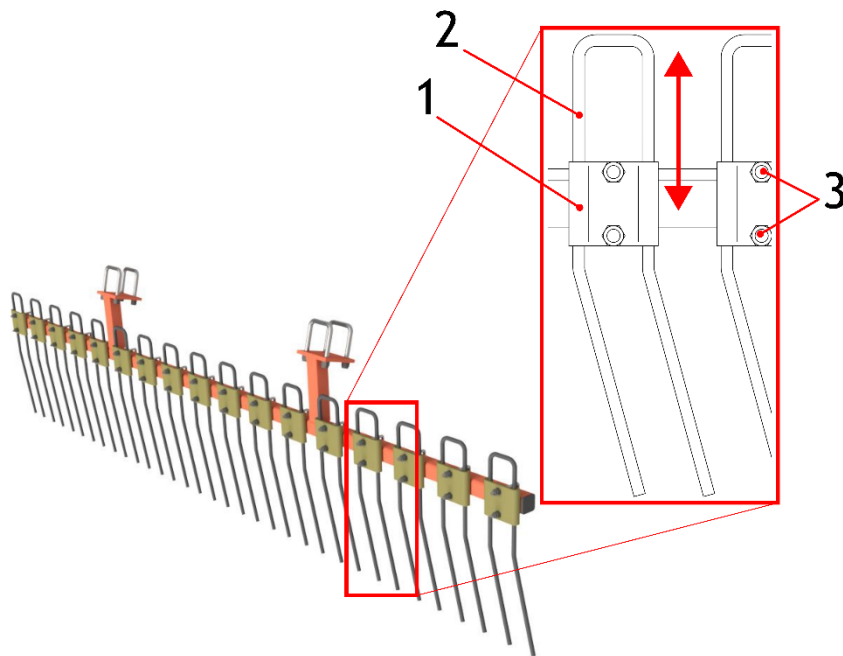

Figure 32 Adjustment of the position of the spring screen claws (1 – mounting plate, 2 – spring claw, 3 – fastening nuts)
1. Loosen the nuts (Fig. 32, item 3) and the plate (Fig. 32, item 1),
2. Extend upwards or retract downwards the claw (Fig. 32, item 2),